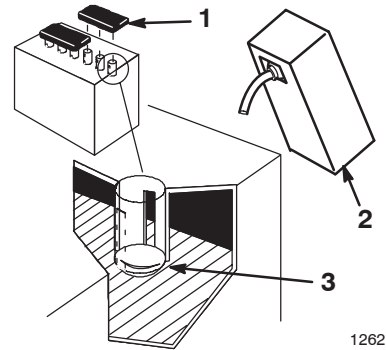

Figure 1
2. Remove the filler caps from the battery. Slowly pour electrolyte into each cell until the electrolyte level is up to the lower part of the tube (Fig. 1). Use an electrolyte with a specific gravity of 1.265.
5. Slowly pour electrolyte into each cell until the level is once again up to the “UPPER” line on the battery case (Fig. 1), then install the filler caps.